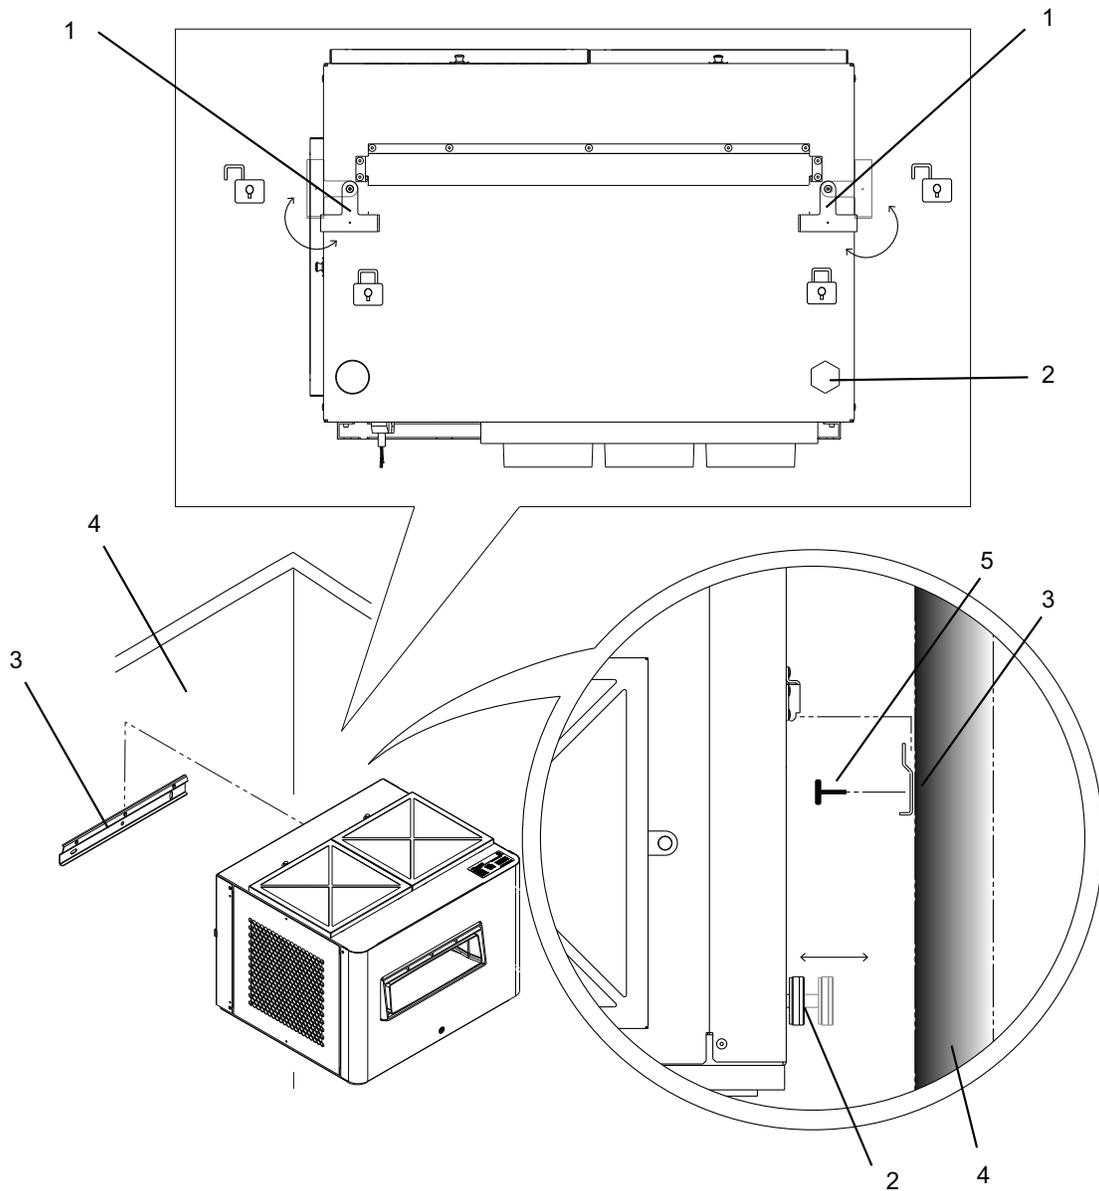

Figure 8 - Remote Mounting the Ultrasonic Blower Pack
- a. Locate a 2×4 wooden stud or equivalent support in the mounting surface, and mark the position with the help of a level – refer to Figure 8 - on the facing page.